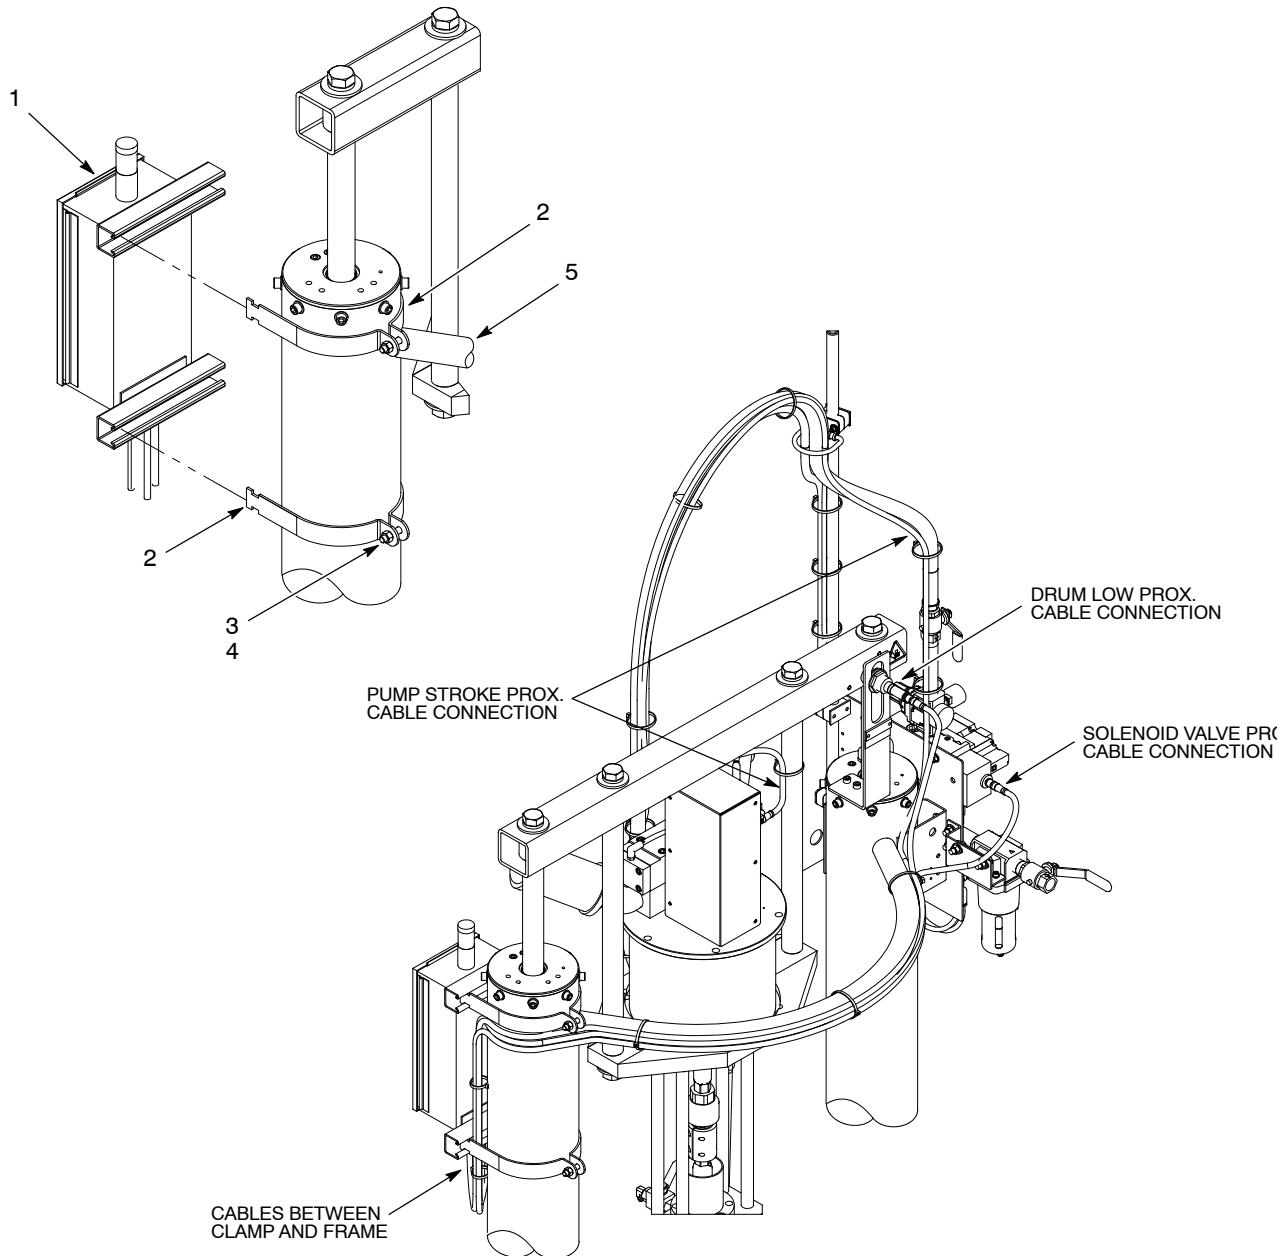

Figure 2 Installation
1. See Figure 2. Loosen the nuts (3) and screws (4) on the clamps (2). Install the top clamp (2) above the air crossover tube (5).
2. Install the J-box (1) onto the clamps (2). Tighten the nuts (3) and screws (4) securely.